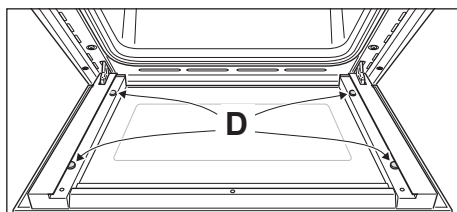

Fig. 4.24
- Check that the four rubber pads are in place ("D" in fig. 4.24).